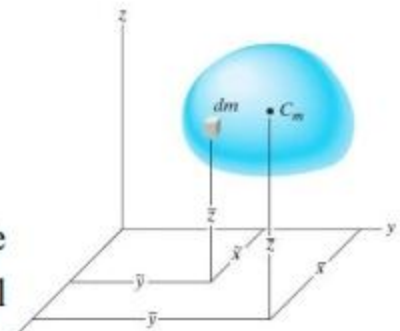

Fig. 9-2
**Center of Mass of a Body.** To locate the body's center of mass  $C_m$ , Fig.9-2. This location can be determined by substituting  $dW = g dm$  into Eqs. 9-2. Since  $g$  is constant, it cancels out, and so